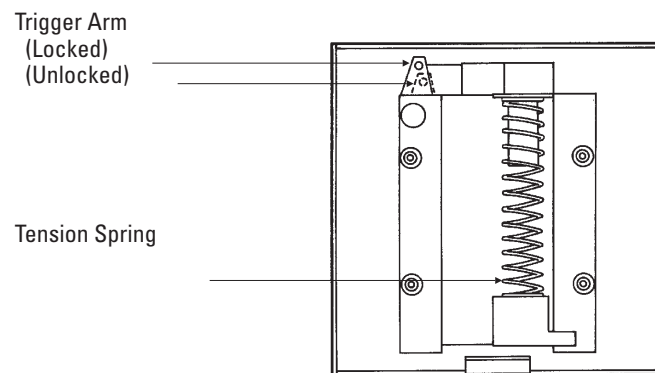

Figure 5-3:
- 4 Holding the detached lid as shown in Figure 5-3, insert a ballpoint pen or very small screwdriver into the hole in the trigger arm and slide it first to the right, then down. (The trigger arm should move about a quarter of an inch and remain in this new position.)